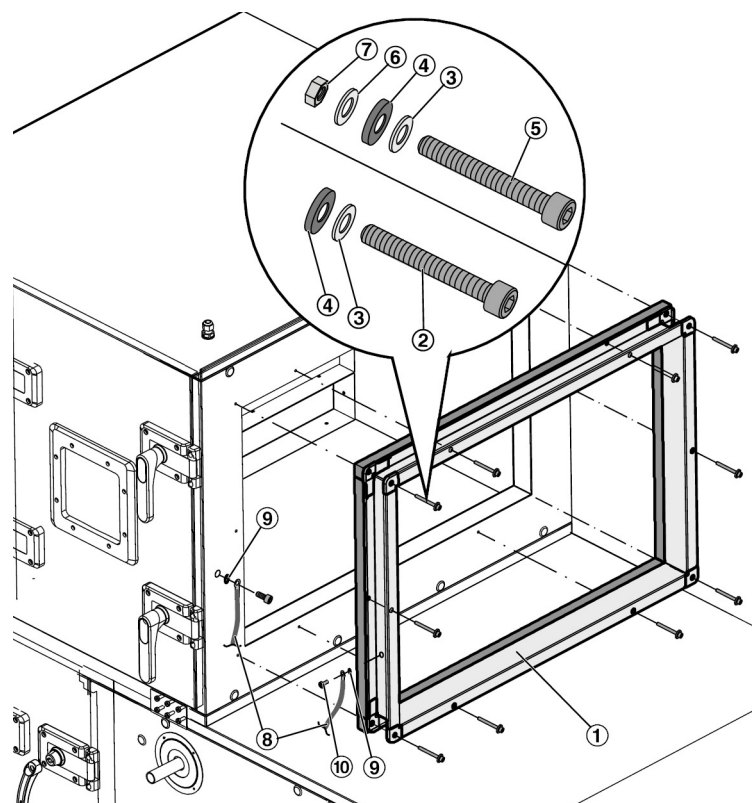

Fig. 19: Installing the noise insulating connector
②	Thread forming socket cap head screw M6 × 40	A00000055910	A00000055911	–	–
③	Washer Ød 6.4	M332AA3	M333AA3	M332AA3	M333AA3
④	Rubber seal 17 × 6.5 × 3	M338BD0
⑤	Socket cap head screw M6 × 40	–	–	A00000018868	A00000056190
⑥	Washer Ød 6.4	–	–	M332AF9	M333AC3
⑦	Nut M6	–	–	M332AD6	M323AA3
⑧	Ground cable	A00000026651
⑨	Lock washer, serrated	M332KB4	A00000045194	M332KB4	A00000045194
⑩	Pan head screw M6 × 12	M852AC6
⑪	Socket cap head screw M6 × 30	M852AC4
1. ▶ Place the noise insulating connector ( Fig. 19 /1) on the air handling unit with the perimeter seal facing down; fix it with thread forming screws ( Fig. 19 /2), rubber seals ( Fig. 19 /4) and washers ( Fig. 19 /3).
If the noise insulating connector is to be attached to a multileaf damper, fix it with the supplied socket cap head screws ( Fig. 19 /5), rubber seals ( Fig. 19 /4), washers ( Fig. 19 /3 and 6) and nuts ( Fig. 19 /7).
2. ▶ Fix one eye of the ground cable ( Fig. 19 /8) with a pan head screw M6 × 12 ( Fig. 19 /10) and a serrated lock washer ( Fig. 19 /9) to the noise insulating connector.
3. ▶ Fix the other eye of the ground cable with a socket cap head screw M6 × 30 ( Fig. 19 /11) and a serrated lock washer through the panel sheet to the tubular frame of the air handling unit.